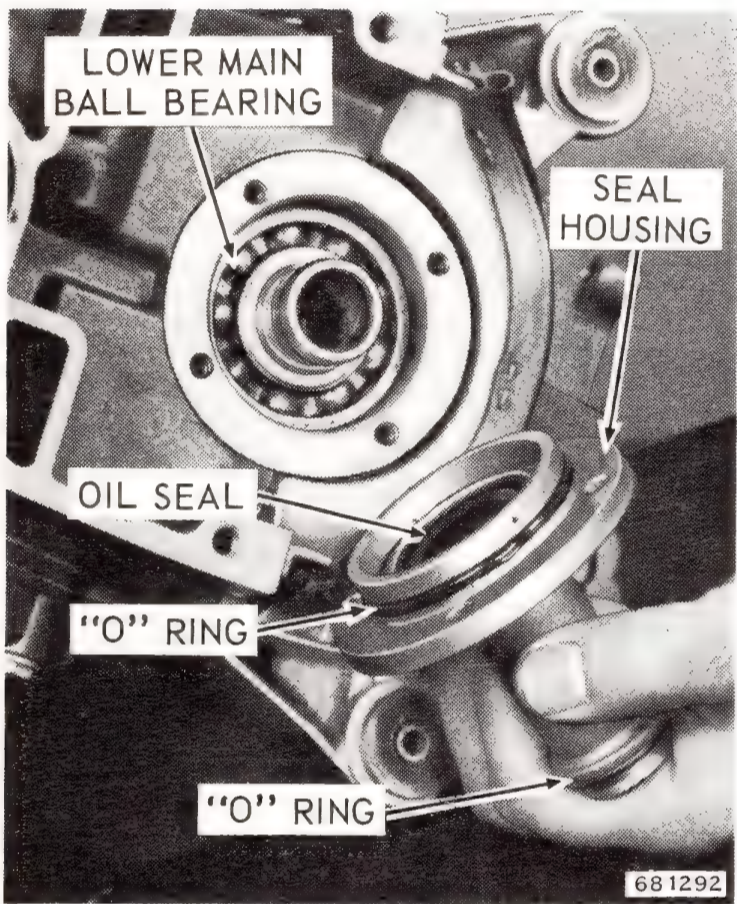

Figure 5-14. Lower Main Bearing Seal Housing
a. Remove the lower main bearing seal housing. See Figure 5-14.